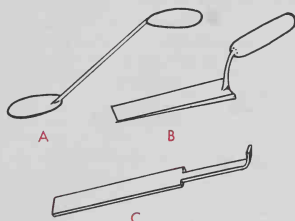

Fig. 9-8. Molders tools. (A) Slick and spoon; (B) Trowel; (C) Lifter.
8. Remove the molding board. The flat side of the pattern is now visible. Check the surface of the sand and smooth with the slick, spoon, trowel, and lifter if necessary, Fig. 9-8. Also be sure the